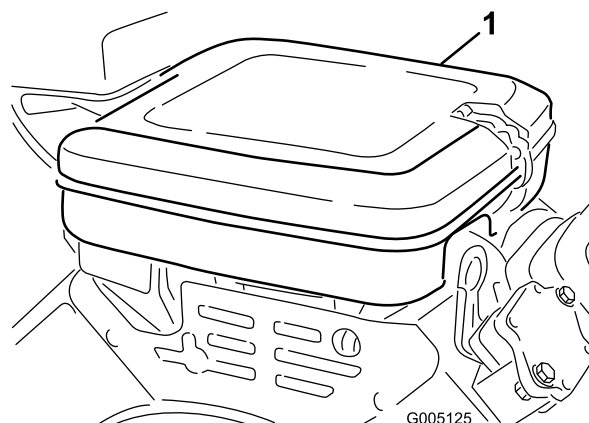

Figure 43
1. Release the locking clips and remove the air cleaner cover (Figure 43). Clean the cover thoroughly.